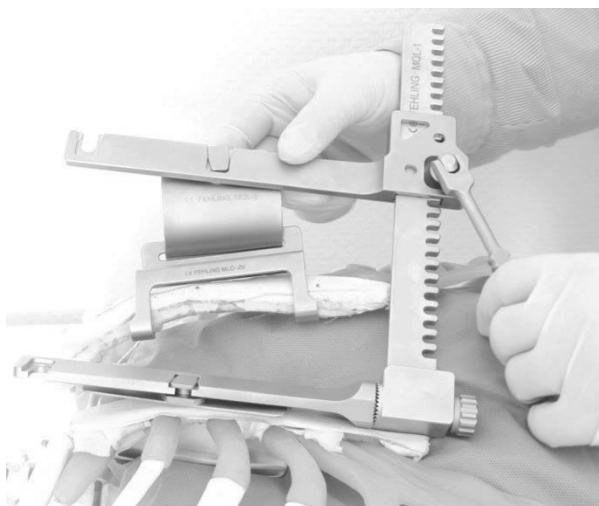

Fig. 14
5. Widen the retractor to achieve the desired exposure of the thorax (Fig. 14).